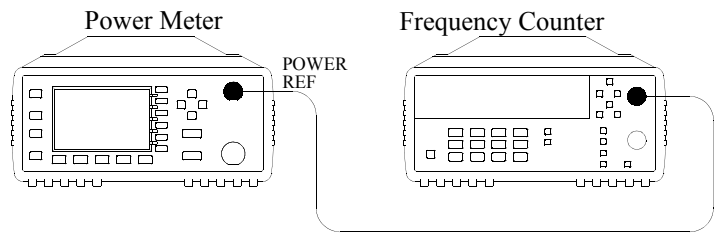

Figure 3-1: Adjustment Setup
2. Connect the equipment as shown in Figure 3-1. Set up the counter to measure frequency.